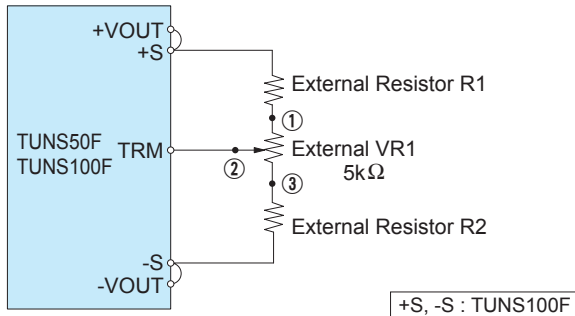

Fig. 4.3 Connecting External Devices (TUNS50F/TUNS100F)
■Output voltage can be adjusted by connecting an external potentiometer (VR1) and resistors (R1 and R2) as shown in Fig. 4.3.